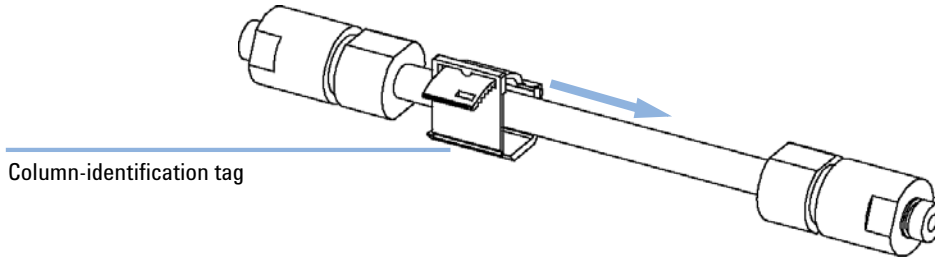
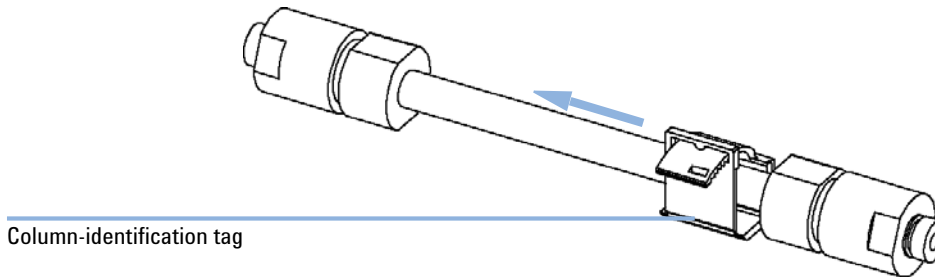

Figure 26 Column-Identification Tag for Left Heat Exchanger
Figure 27 Column-Identification Tag for Right Heat Exchanger
- 2 The tag needs to be placed differently, depending on whether the column is installed at the left or right heat exchanger, see Figure 26 on page 118 and Figure 27 on page 118. The Agilent logo should always be at front.